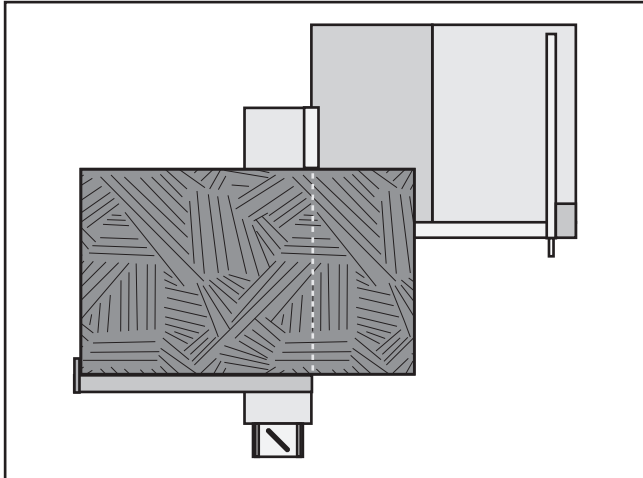

Figure 60. Crosscutting with miter fence in the forward position.
The Model G0700 can crosscut with the fence in the forward or rear position, although it is easier to load large workpieces with the miter fence mounted in the forward position (see **Figure 60**).
1. Install the miter fence in either of the two positions shown in **Figures 60–61**.